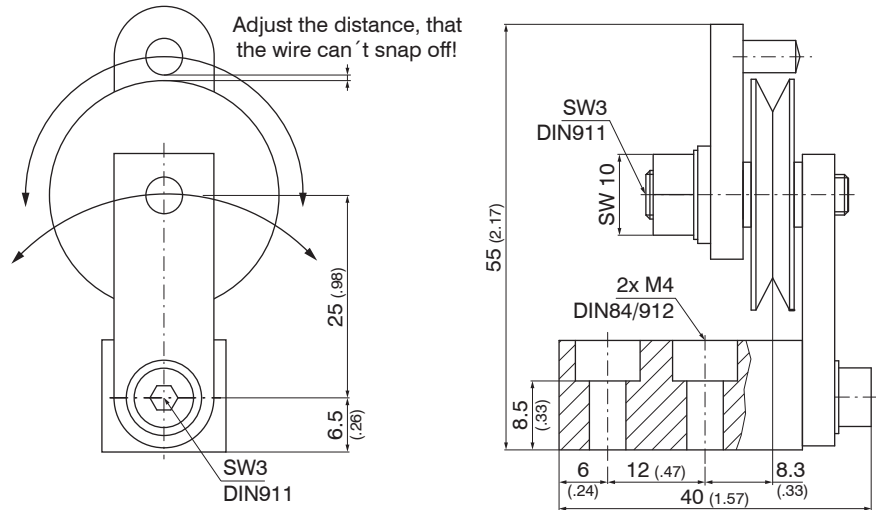

Fig. 20 Guide pulley TR1-WPS with mounting socket, dimensions in mm (inches), not to scale
- TR1-WPS Guide pulley adjustable with mounting socket, see Fig. 20